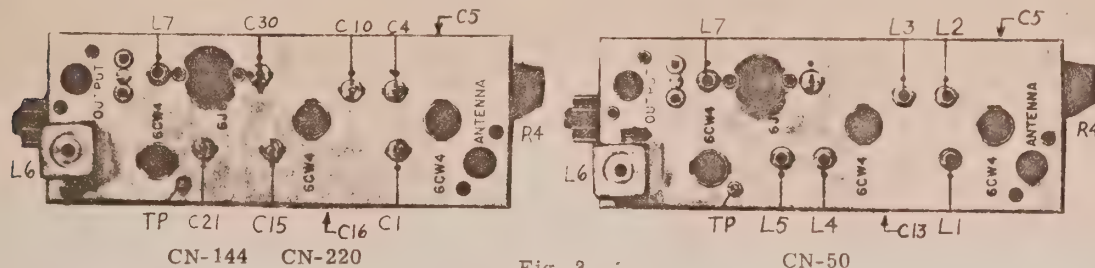

Fig. 3
1. Adjust the six piston trimmers on top of the CN-144 or CN-220 chassis so that 1.2" of the trimmer screw is exposed above the trimmer housing. Adjust the six hexagonal core slugs on the CN-50 and the single hexagonal core slug on the CN-144 and CN-220 so that the slugs are approximately centered in the coils. Connect the converter to your receiver and power supply. Connect VTVM from the test point TP to ground. See Fig. 3 for the location of this point. Adjust the VTVM to a low scale setting to read -DC volts. Wherever 6CW4 is mentioned, 6CW4 or 6DS4 can be used without changes or adjustments.